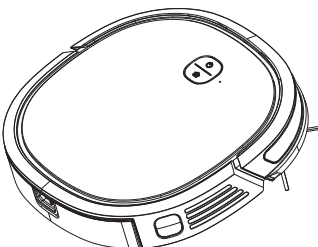

fig 4
4. Recharge operation: Press  to enable the machine to recharge automatically (fig 4). After the machine contacting with the charging base, giving the sound of beep, the indicator flashes  to indicate that the main engine is charging (fig 5).